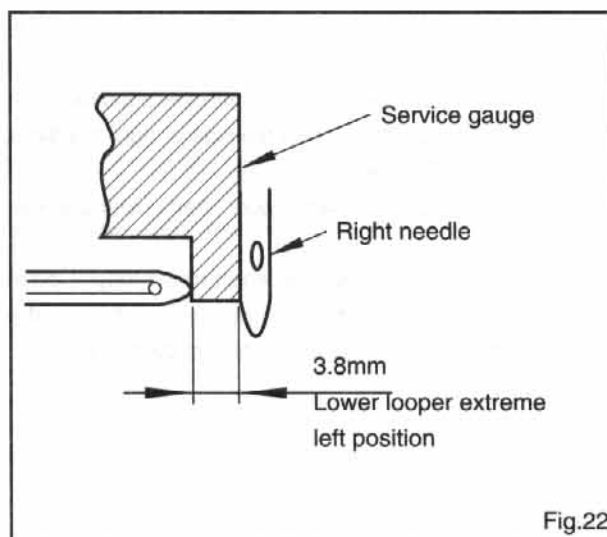

Fig.22
- a) Loosen lower looper shaft lever screw taking care not to disturb the lower looper cam and set the looper shaft lever so that the point of lower looper is located 3.8mm from left side of right needle when in its extreme left position. (Fig. 22)